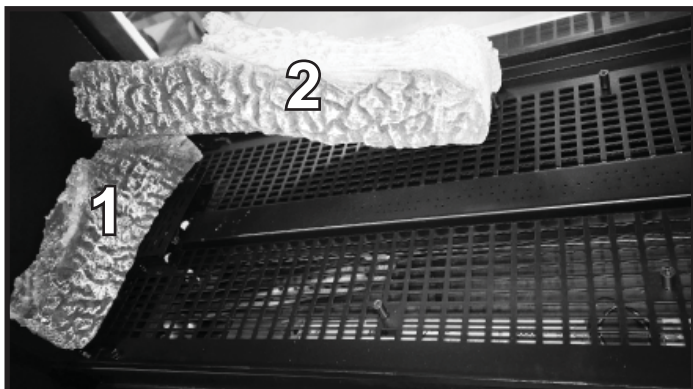

Figure 7. Log #2 (SRV2300-704)
13. **LOG #2 (SRV2300-704):** Install Log # 2. Place log so that the larger end of the log is in contact with the locating screw and the small end of the log is resting on the end of Log #1. See Figure 7.